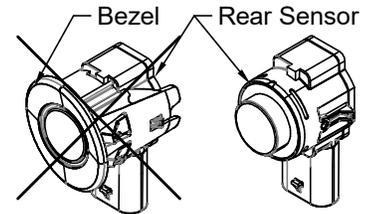

Figure 4: Rear sensor - no bezel.
- Do not reuse the factory mounting bezel (Figure 4), doing so may not position the sensors correctly.